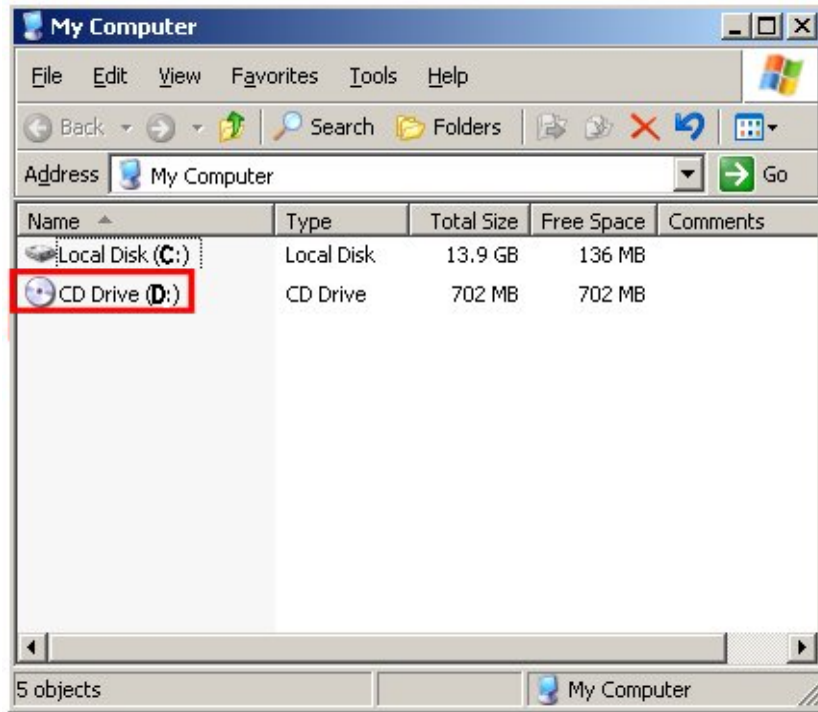

Figure 162. AAR – CD Drive in My Computer
7. Double-click the CD drive (Figure 162) to view the copied files.